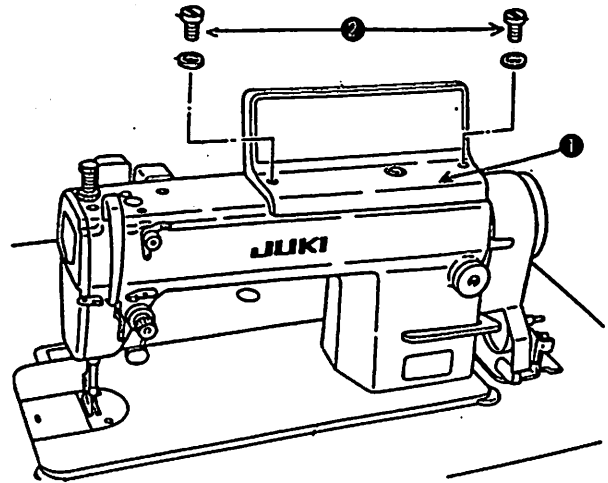

Fig. 4-21
- ① Remove the 2 screws ② on control box ① in Fig. 4-21 with a screwdriver.
- (1) Place the new control box in the correct box mounting position on the top surface of sewing machine head and mount it with the 2 accessory screws (Fig. 4-21).